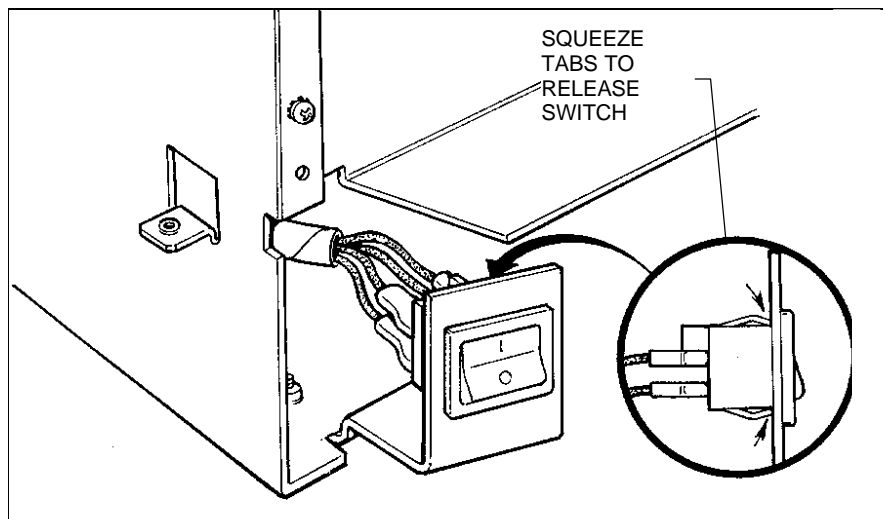

Figure 6-5. Removing the power switch
2. Using angled needle nose pliers, reach behind the switch and pull back each of the four wire connectors from the contacts on the switch. (Figure 6-5)